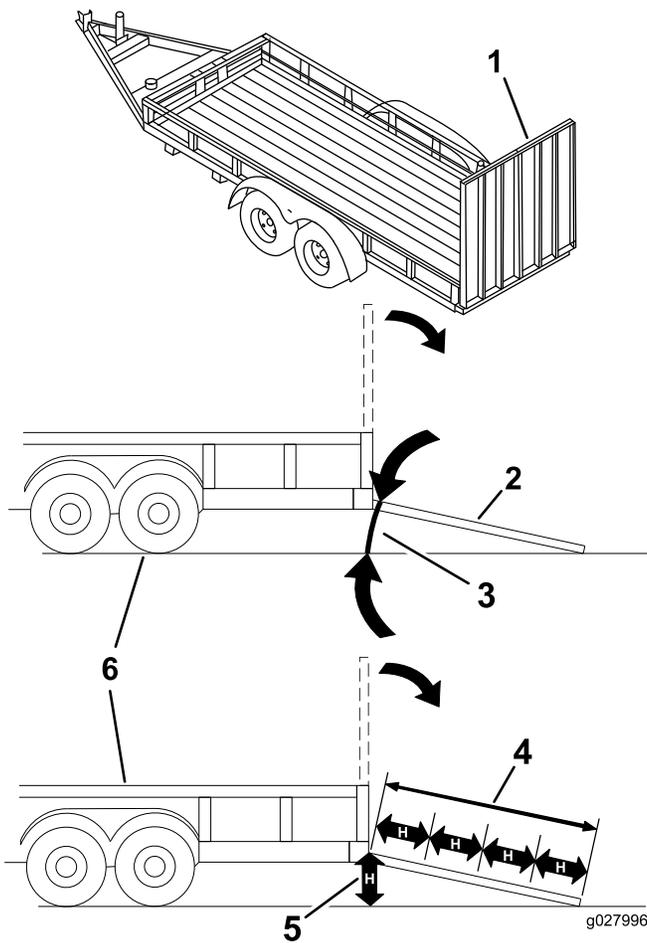

Figure 15
Loading a machine onto a trailer or truck increases the possibility of tip-over and could cause serious injury or death (Figure 15).
3. Lower the ramp, ensuring that the angle between the ramp and the ground does not exceed 12 degrees (Figure 15).
1. Lower the ramp, ensuring that the angle between the ramp and the ground does not exceed 15 degrees (Figure 15).